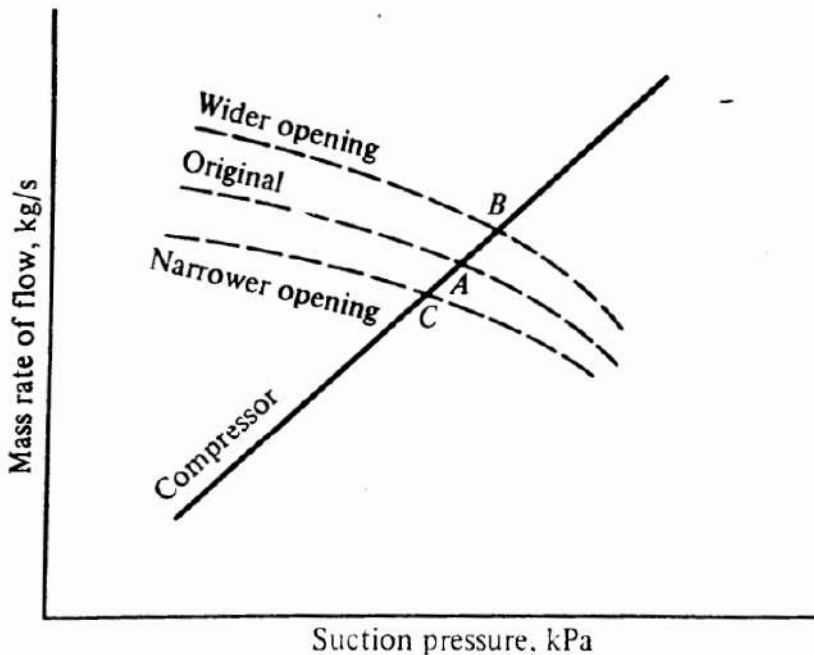
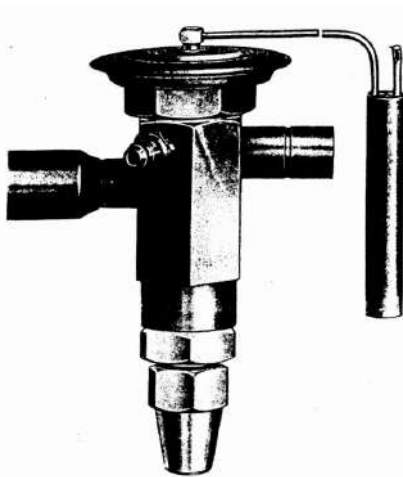

Figure 13-10 Balance points with various load conditions using a float valve. The condensing pressure is constant.
Figure 13-11 A thermostatic expansion valve. (Sporlan Valve Co.)
- By maintaining a constant liquid level in the evaporator the float valve always establishes balanced conditions of flow between the compressor and itself. Figure 13-10 shows an original balance point at *A*. If the refrigeration load should increase, the evaporating temperature and pressure rise, which momentarily allows the compressor to pump a greater rate of flow than the valve is feeding. The valve reacts to keep the level constant by widening its average opening. A new balance point occurs at point *B*. If the refrigeration load decreases, the suction pressure drops and the level rises, prompting the valve to close somewhat and give a balance point at *C*. Float valves and float-switch-solenoid combinations are used primarily in large installations. They can regulate the flow to flooded evaporators in response to the level of liquid refrigerant in the shell of the evaporator or in a chamber connected to the evaporator.
- The balances of the flow rate between the compressor and superheat-controlled expansion valve are therefore practically identical to those shown for the float valve in Fig. 13-10. Figure 13-11 is a photograph of a thermostatic expansion valve.